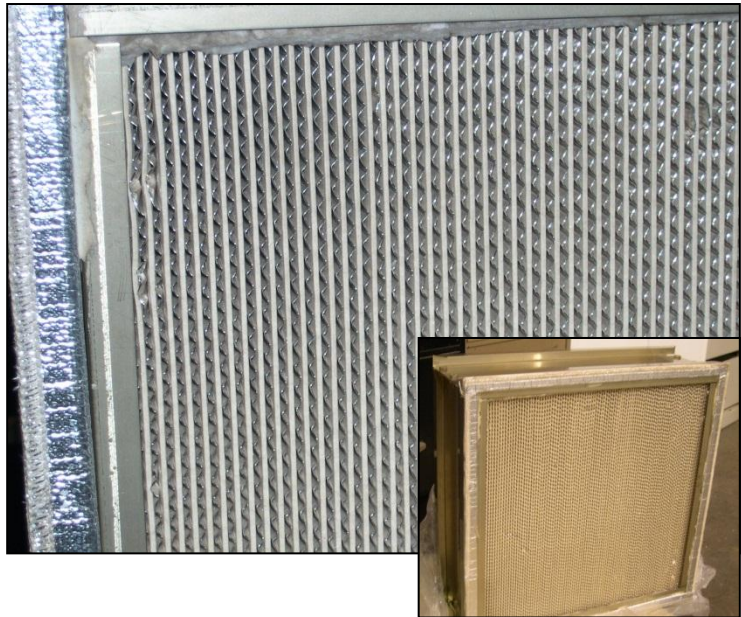

Figure 10. Example HEPA Filter (Silicone-free) and Close-Up.
- b. Use a strong lamp to examine the exposed areas of both faces for evidence of breaks, cracks, or pinholes (Figure 10). If a strong lamp is unavailable, use a flashlight in a darkened room.